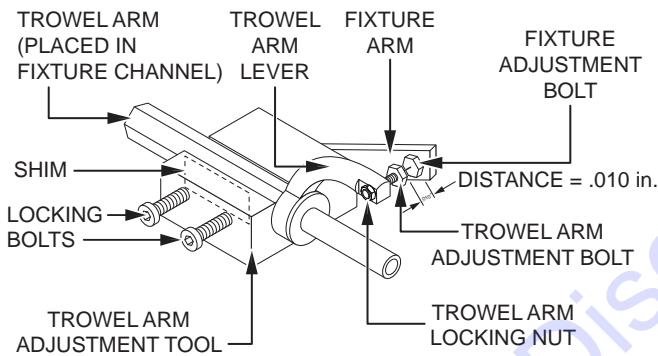

Figure 69. Trowel Arm Adjustment
1. Unscrew the locking bolts on the adjustment tool and place a trowel arm (with lever attached) into the fixture channel as shown in Figure 69.
3. A thin shim may be required to cover the blade holes on the trowel arm (Figure 69). Be sure to align the trowel arm adjustment bolt with the fixture adjustment bolt.
4. Tighten the locking bolts (Figure 69) to secure the trowel arm in place.
5. Adjust the bolt distance shown in Figure 69 to match one of the arms. The other arms will be adjusted to match this distance.